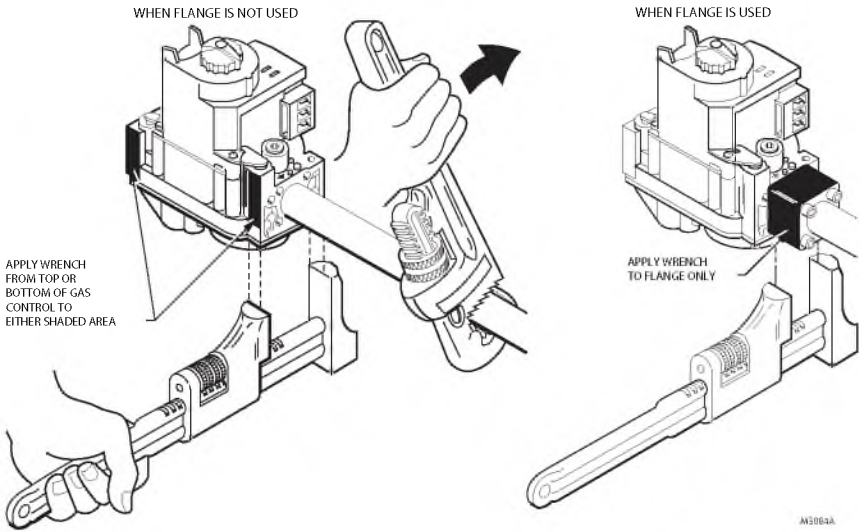

Fig. 5. Proper use of wrench on gas control with and without flanges.
Complete the instructions below for installing the piping, installing the control, connecting the pilot gas tubing and the wiring. Make sure the leak test you perform on the control after completing the installation includes leak testing the adapters and screws. If you use a wrench on the valve after the flanges are installed, use the wrench only on the flange, not on the control. See Fig. 5.
6. Connect the pipe to the control inlet and outlet, use a wrench on the square ends of the control. If a flange is used, place the wrench on the flange rather than on the control. Refer to Fig. 5 and 6.